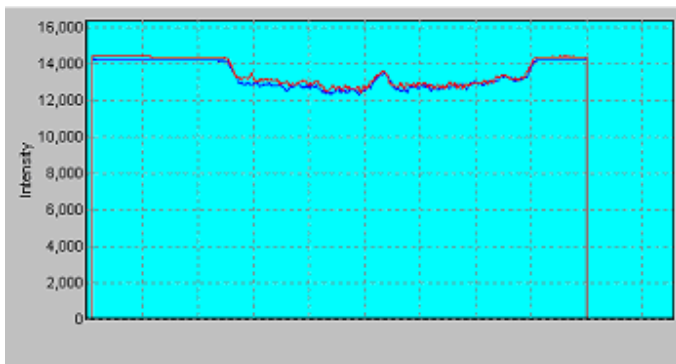

Figure 5-11: Probe too far from object
- The signal graph looks similar to the graph displayed in **Figure 5-11**. The signal looks ‘narrow’ and starts beyond pixel 500.